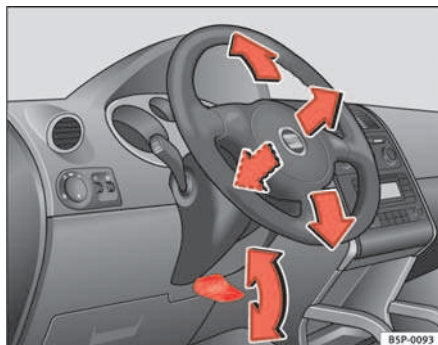

Fig. 127 Adjusting the steering wheel position
- Push the lever under the steering column $\Rightarrow$ fig. 127 down $\Rightarrow$ ⚠.